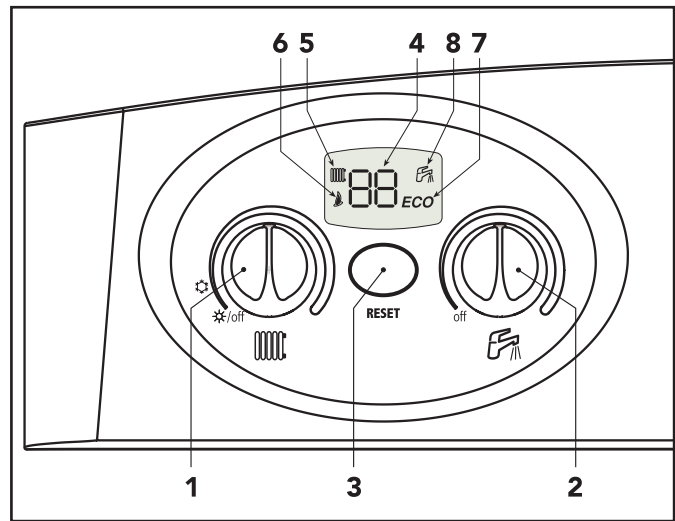

Fig. 1
During normal operation, the boiler diagnostics control sends information on the state of the boiler via the display (Fig.1).
Turn the knobs (ref. 1 and 2 Fig. 1) onto minimum.
To set the system delivery temperature, turn the knob (ref. 1 - Fig. 1).
To set the tap water temperature, turn the knob (ref. 2 - Fig. 1).
Boiler shutdown	Make sure that the gas cocks ahead of the boiler and on the meter are open. Check condensate discharge, make sure it is clean and not obstructed. Press the multi-function button (for 1 second) (fig.1) In case of repeated shutdowns, contact the nearest service centre.